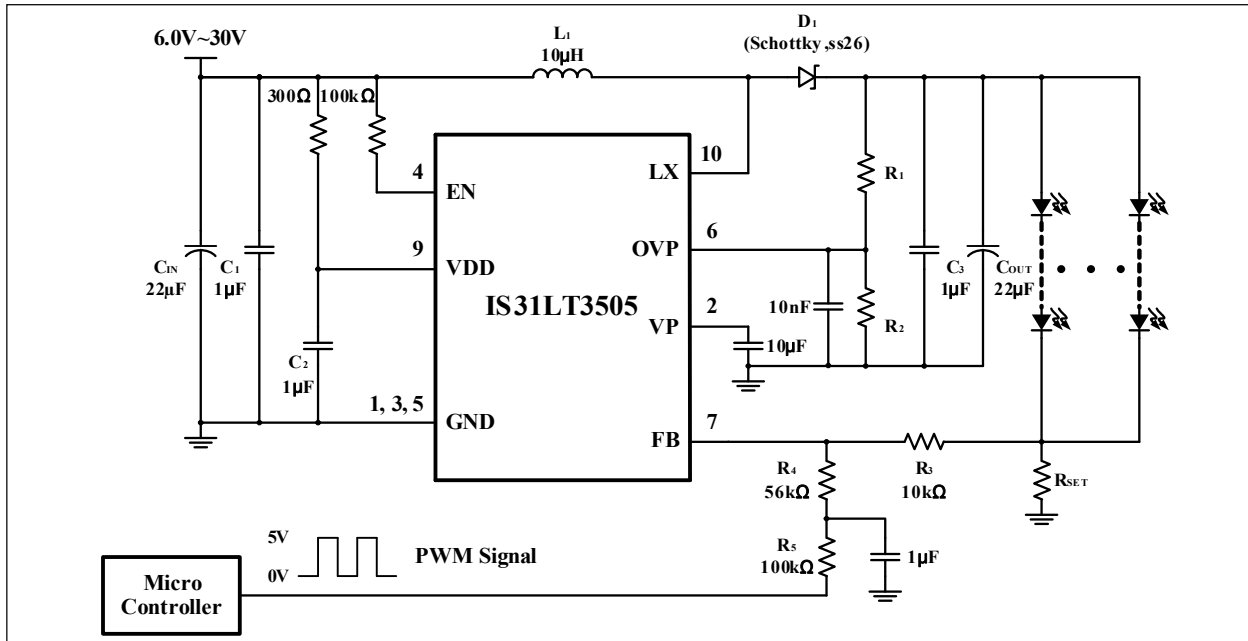

Figure 15 Application Circuit (Constant Current to Drive White LEDs With PWM Dimming)
A filtered PWM signal acts as the DC voltage to regulate the output current. The recommended application circuit is shown as Figure 15. In this circuit, the output ripple depends on the frequency of PWM signal. For smaller output voltage ripple, the recommended frequency of 5V PWM signal should be above 2KHz. To the fixed frequency of PWM signal and change the duty cycle of PWM signal can get different output current. The LED current can be calculated by the Formula (3). The internal feedback voltage  $V_{FB}$  is 0.3V (Typ.).
When it's the 5V PWM signal, the value of R3 should be 10kΩ. Refer to Figure 15.